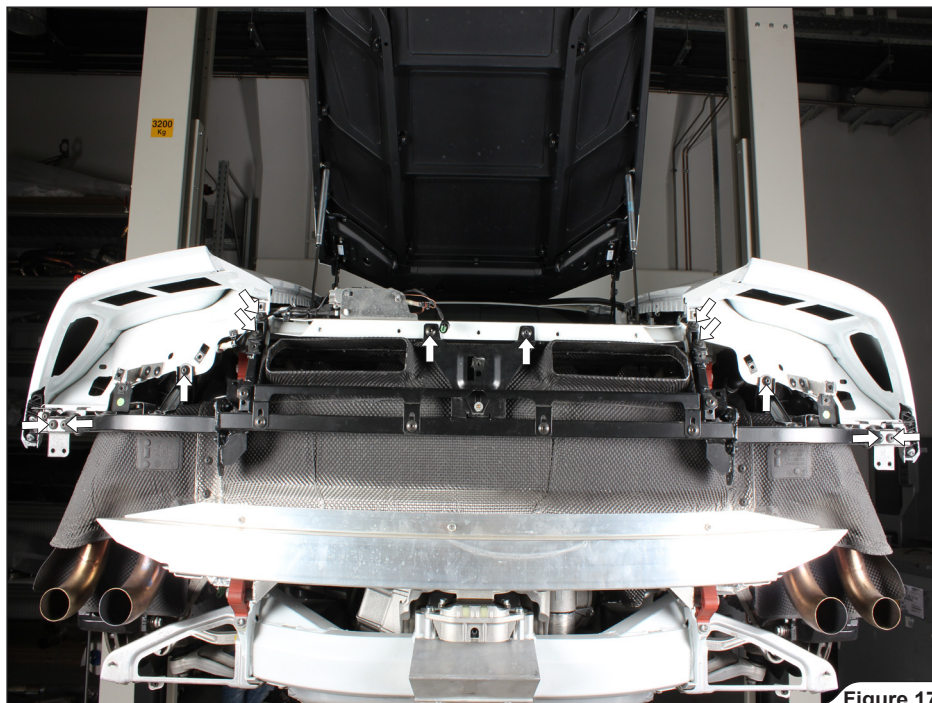

Figure 17
11. Unscrew the marked bolts and remove the bumper's bracket (**Figure 17**).